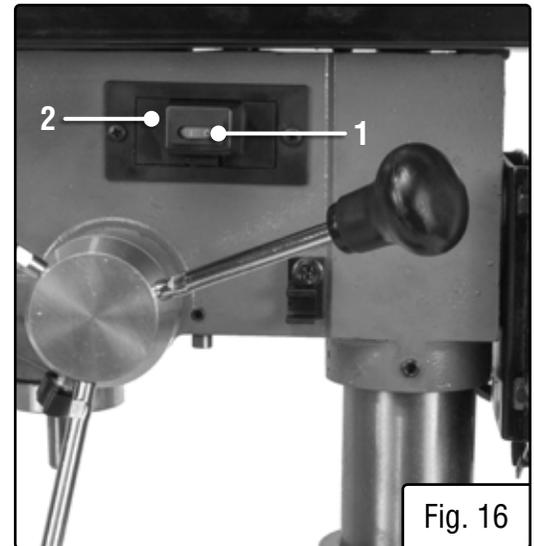

Fig. 16
LASER LINE ON/OFF SWITCHES (FIG. 16)
The laser switch (Fig. 16- 1) is located on the left hand side of the drill press.
1. Pull the tab located below the laser switch and lift up the laser switch cover (Fig. 16 - 2).